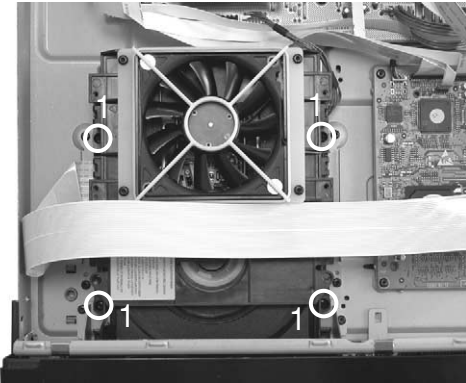

Fig. 7
- Remove the 4 screws 202. (Fig. 7)